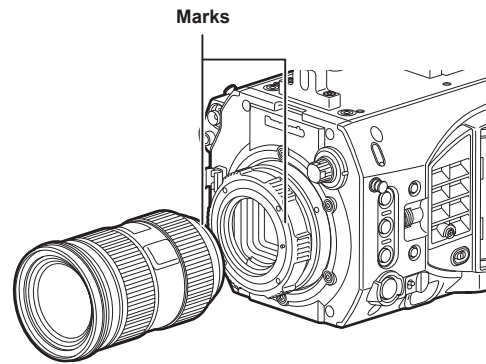

Fig. 2
- 2** Align the mark (red circle) on the lens mount with the mark (red circle) on the lens, and mount the lens. (Fig. 2)